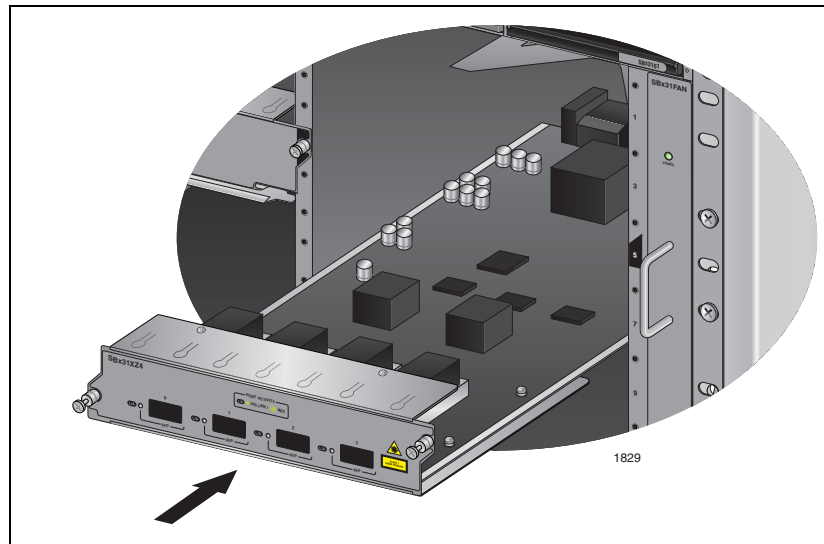

Figure 50. Installing the AT-SBx31XZ4 XFP Line Card
4. Insert the line card into the slot as displayed in Figure 50 until the faceplate is firmly seated against the chassis front panel.